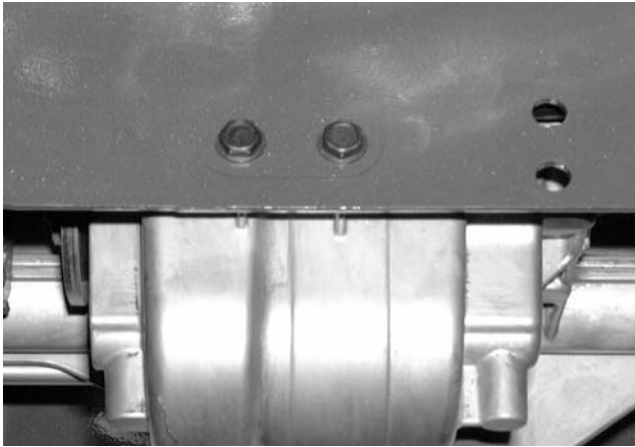

Figure 9-28
8. Remove both of the self tapping screws that secure the transmission to the front torque bracket using a 3/8 socket. See Figure 9-28.